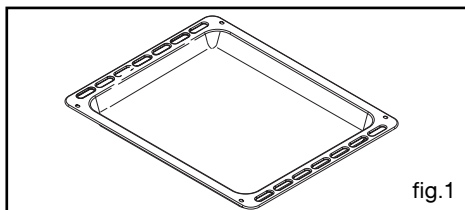

fig.1
• Plat lèche-frite multi-usages fig.1